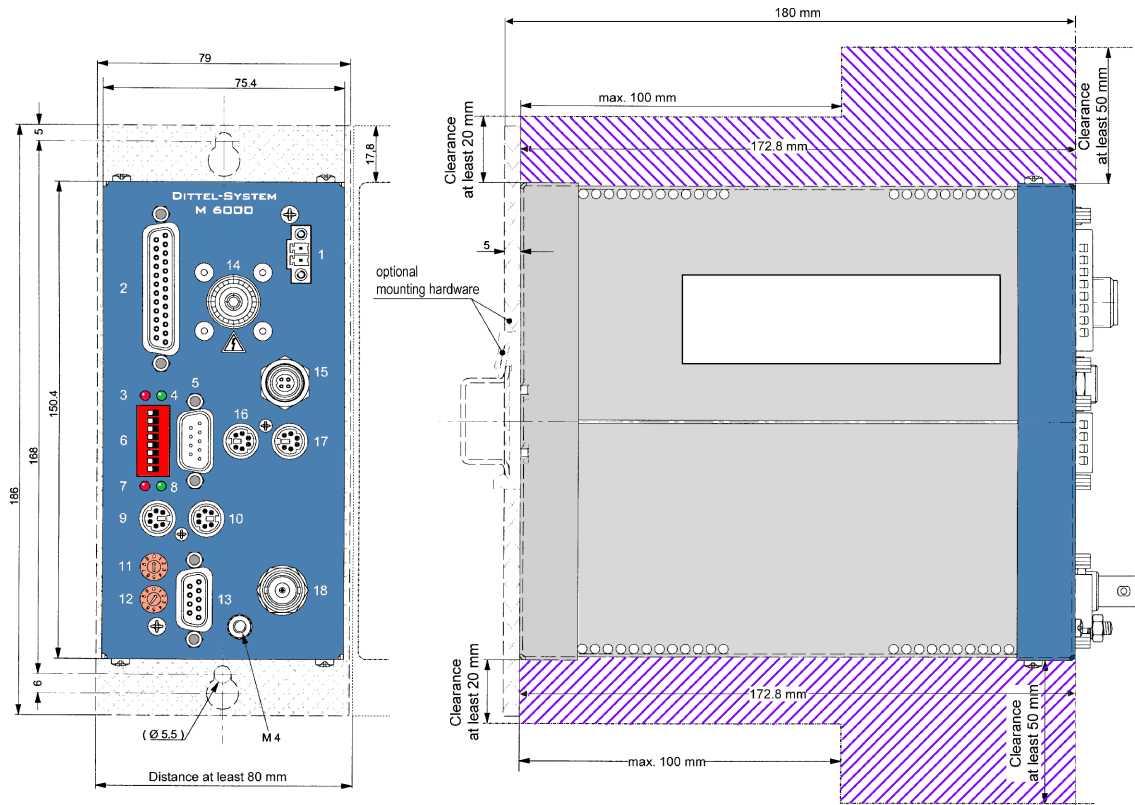
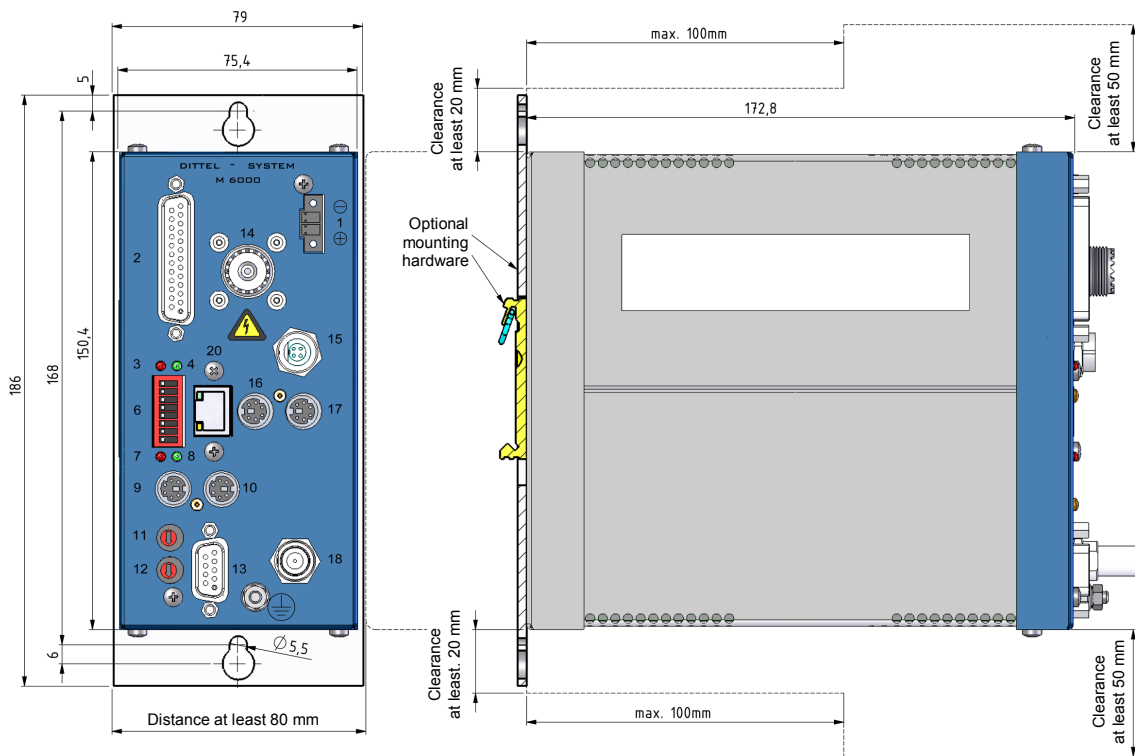
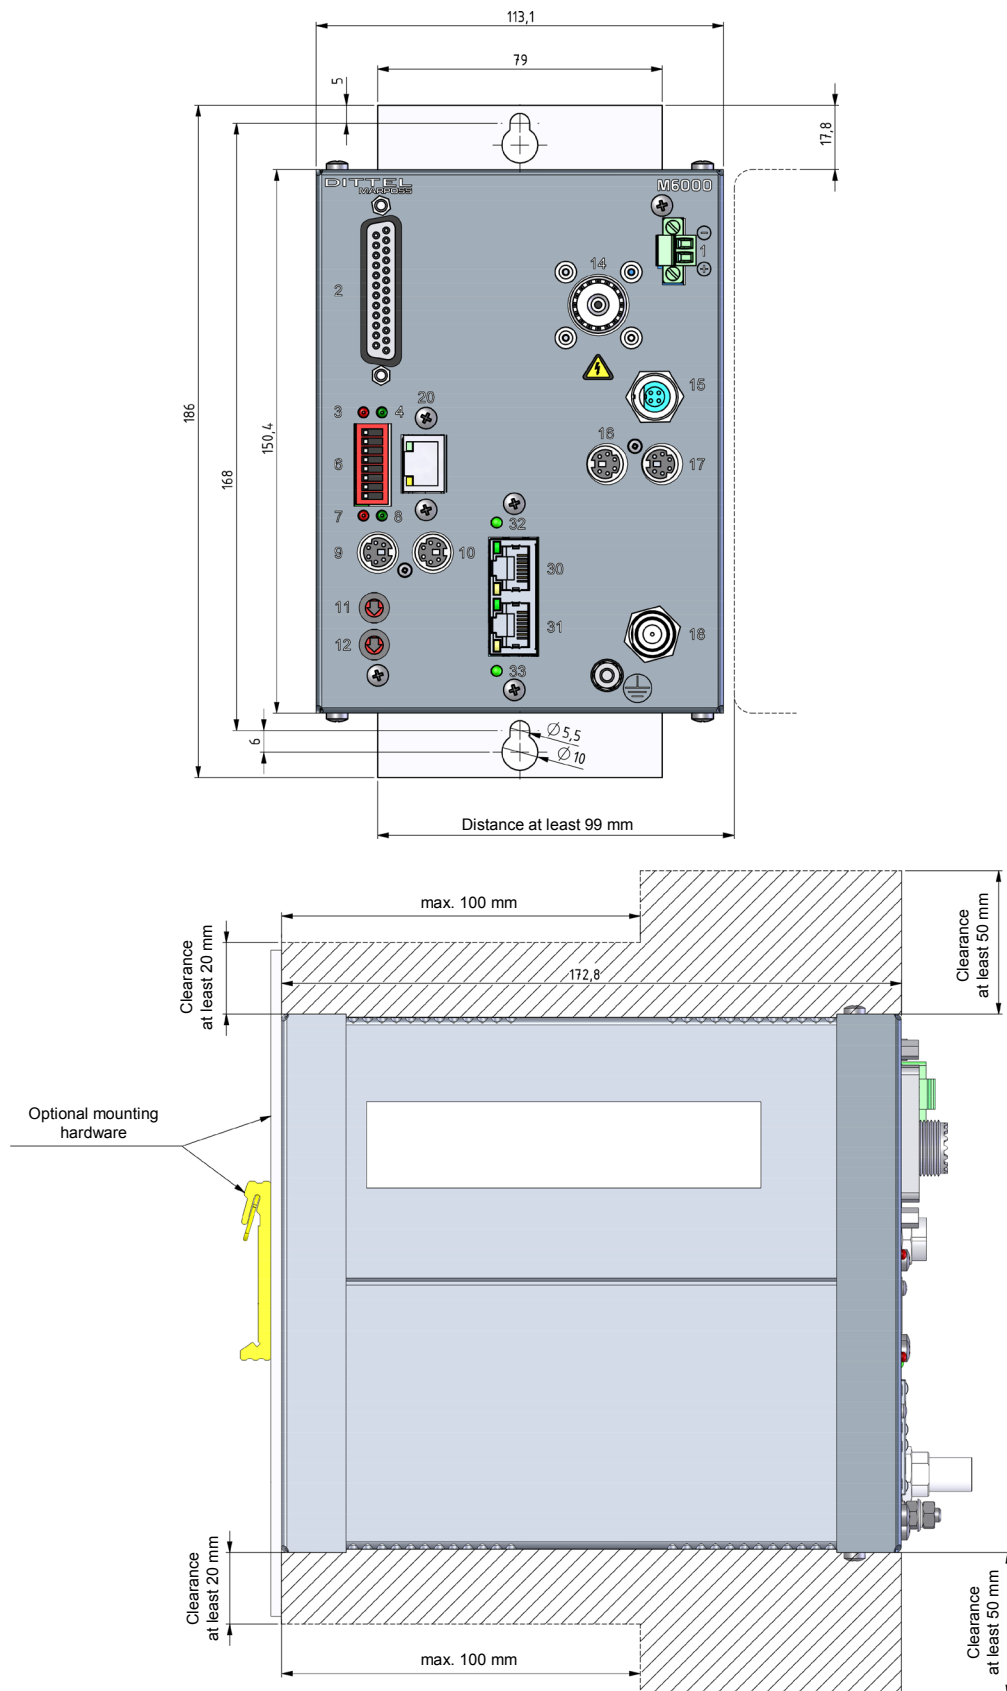

Figure 3-1 **M6000**
Figure 3-2 **M6000 Ethernet**
Figure 3-3 **M6000 PROFINET**
- To allow adequate air circulation, place the next Module at least 20 mm (0.8") respectively 50 mm (2") away from the Module's top and underside (see dimensions in Figure 3-1, Figure 3-2 and Figure 3-3).